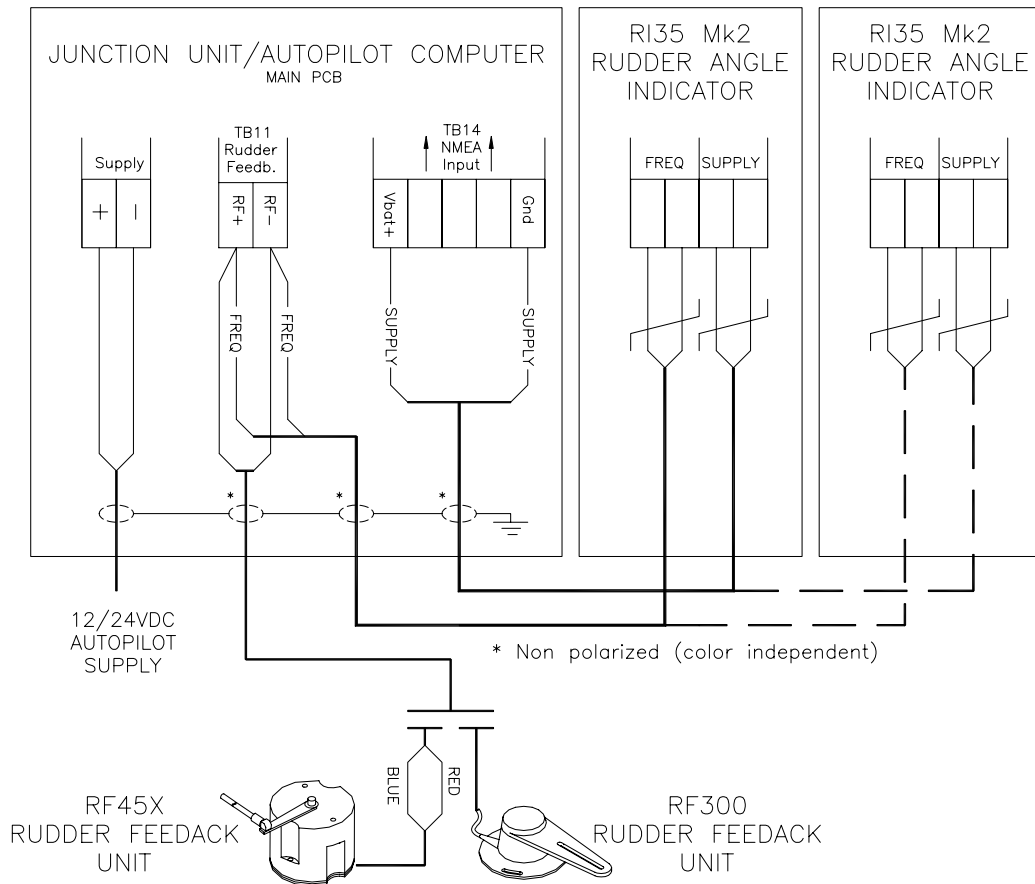
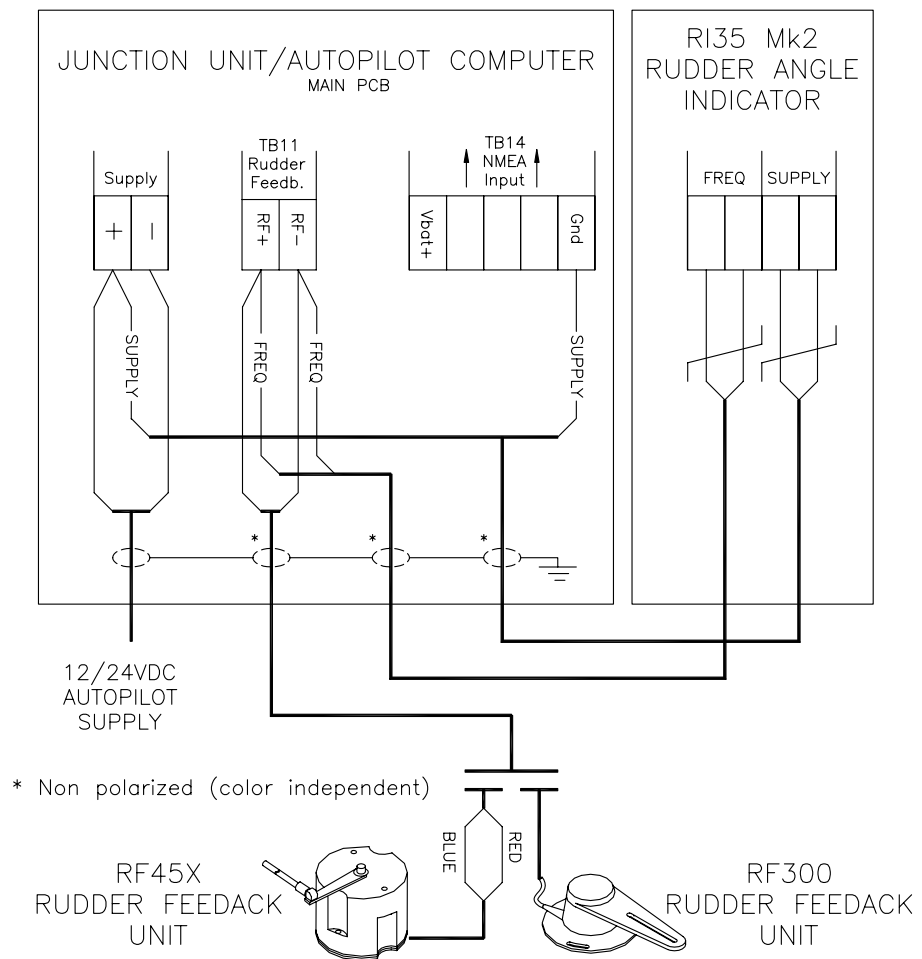
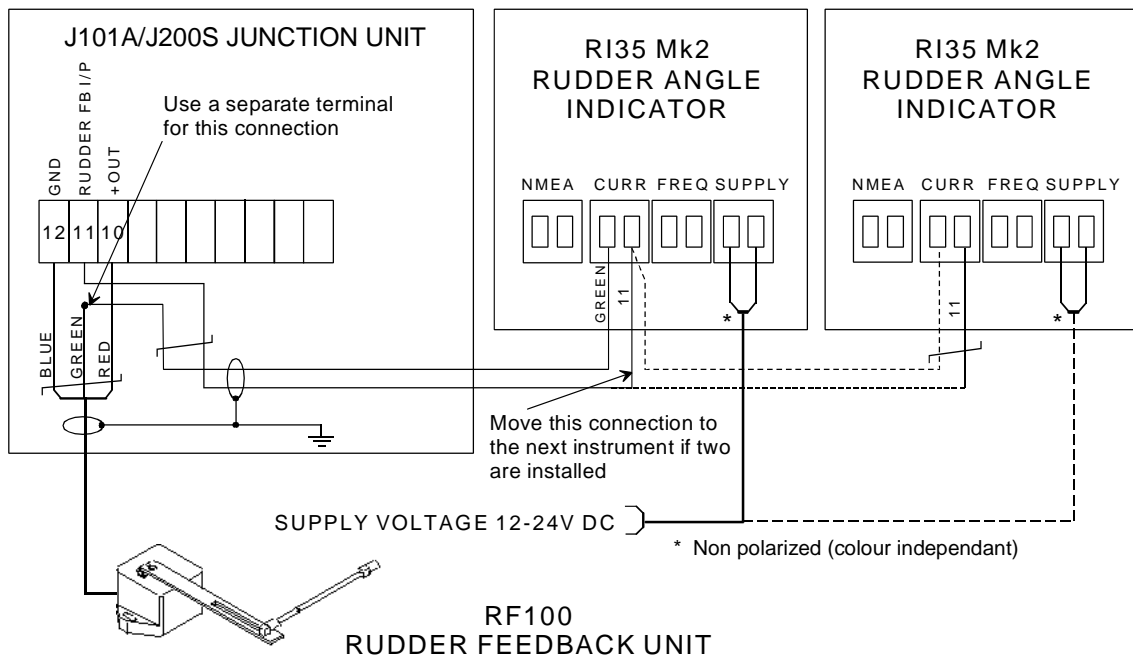

Figure 3-3 RI35 Mk2 – J50/J3XX, Wiring diagram dependent of autopilot function
Figure 3-4 RI35 Mk2-J50/J3XX, independent function of autopilot
Figure 3-9 RI35 Mk2 - J101A/J200S Wiring diagram
- Rev. D Default setting of S1 plug-in strap on the RF45X PCB changed from AP45 to J3XX. Modified figure 3-3, 3-4 and 3-6.
Figure 3-3 and Figure 3-4 is valid for J50 Junction Unit, ACXX Autopilot Computer and for J3XX Junction Units that have Main PCB rev. E onwards. For older J3XX versions see page 10.
The interconnection cables are screened, and the screen should be grounded in the autopilot junction unit. See Figure 3-3 through Figure 3-9 for connections to the different autopilot junction units.